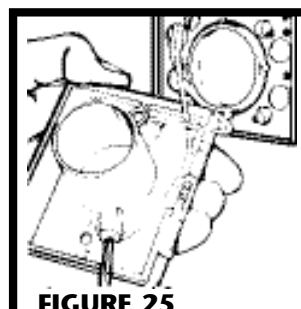

FIGURE 25
5. Refer to Figure 25 page (9). Run low voltage wiring (Model 376UL) and secure wiring to tubing as tubing is installed. Model CF380 Pipe Support can be used to support long runs of tubing (position near joists) and to clip wire along tubing. Secure tubing to joists or studs. Leave approximately 6" of wire for connection to each inlet.